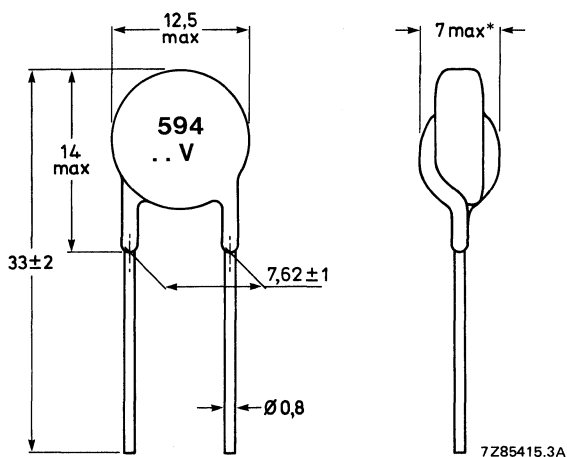

Fig. 1.
The resistors are marked with their serial number (594) and the maximum r.m.s. working voltage (see Fig. 1 and Table 1).